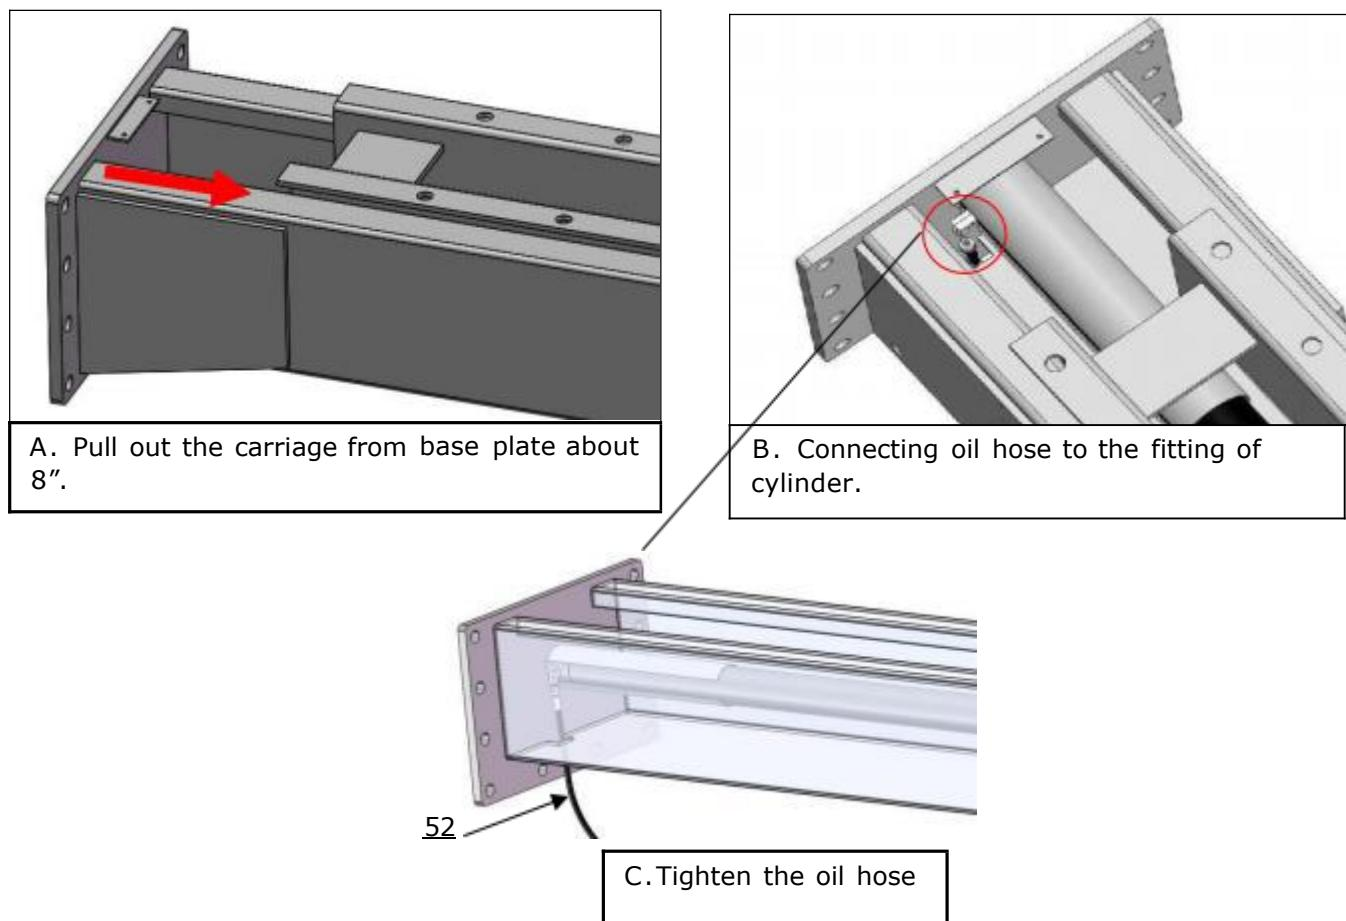

Fig.16
2. Connecting oil hose of cylinder. (See Fig.16)